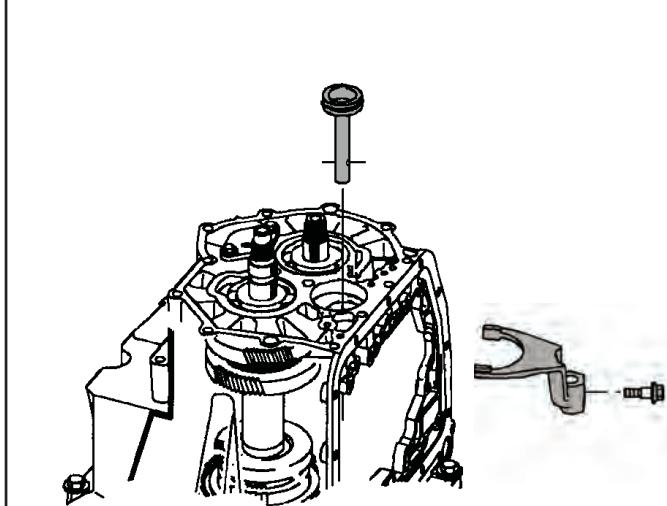

Figure 201
22. Slide the forward/reverse fork onto the second/reverse sleeve in the gear box (See Figure 201).
25. Install the fork to servo piston bolt and torque to 10 N·m (89 in. lbs) as shown in Figure 201.